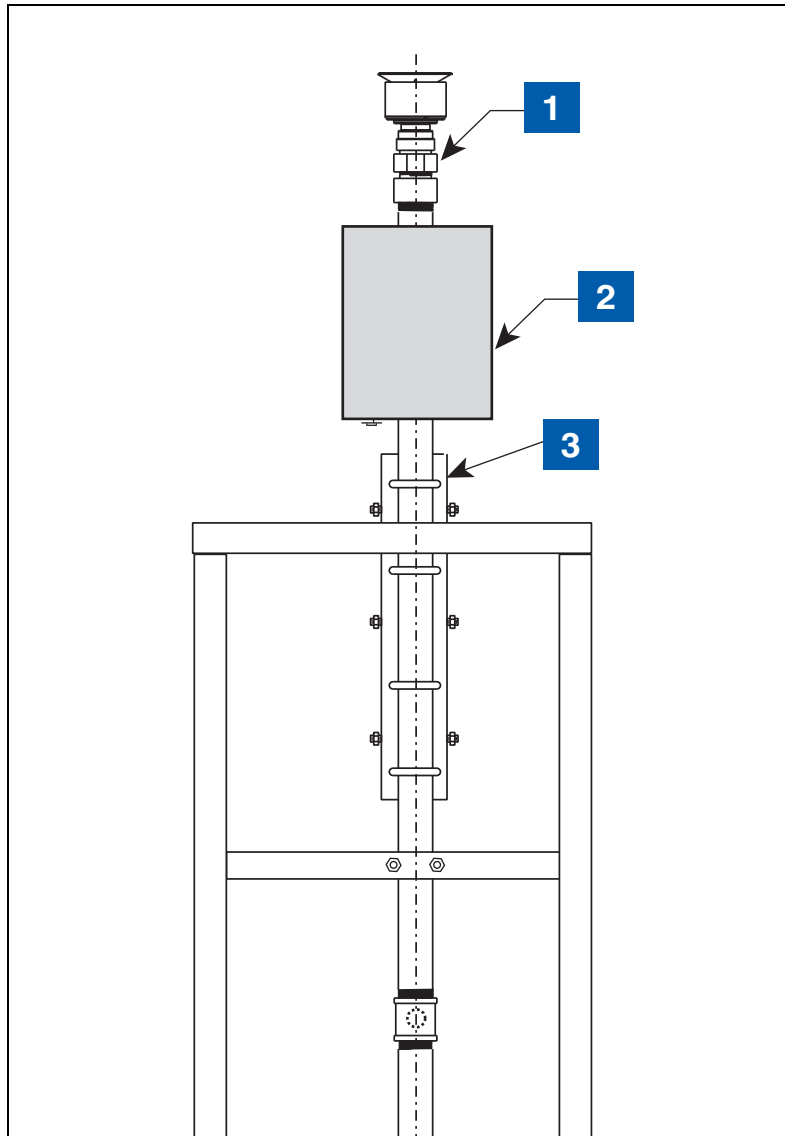

Figure 15. Example CCVP installation
2. A Transmitter /battery pack pair must be installed with the Veeder-Root Carbon Canister Vapor Polisher (CCVP) in a weatherproof enclosure mounted on the vent stack (see Figure 15).
LEGEND FOR NUMBERED BOXES IN Figure 15